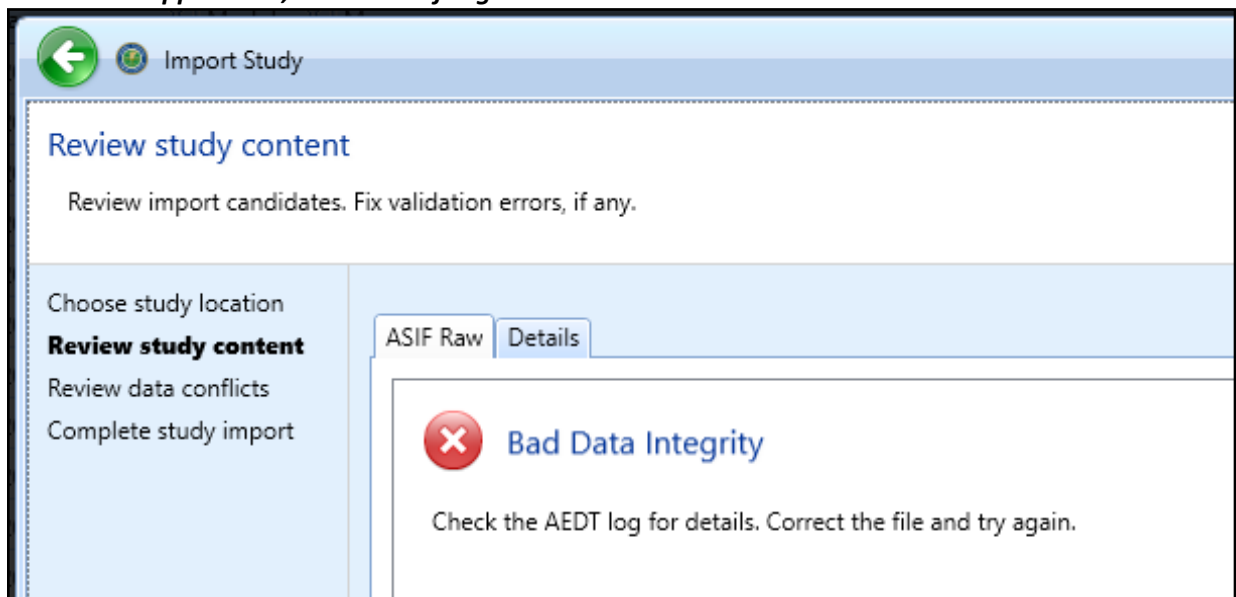

Figure 35- Review study content - bad data integrity
- If the “Bad Data Integrity” message appears, select *Cancel* (Figure 35). This message indicates errors in validating the XML file based on the EDMS study data. **Please refer to Appendix B, section 5.2 for guidance on how to resolve these data errors.**